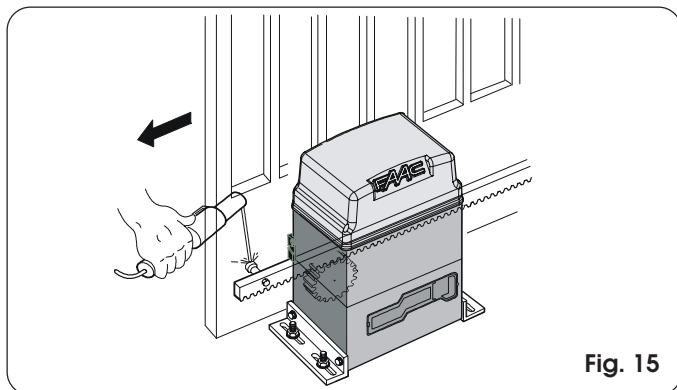

Fig. 15
- 3) Lay the first piece of rack level on the pinion and weld the threaded pawl on the gate as shown in figure 15.